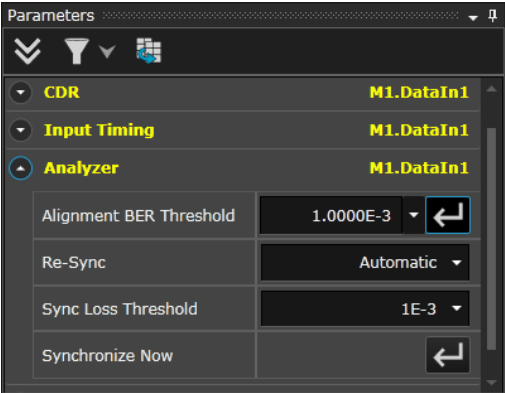

Figure 47      Alignment BER Threshold
- 14 Click on the **Alignment BER Threshold** button to synchronize and align the error detector as shown in Figure 47 on page -88.